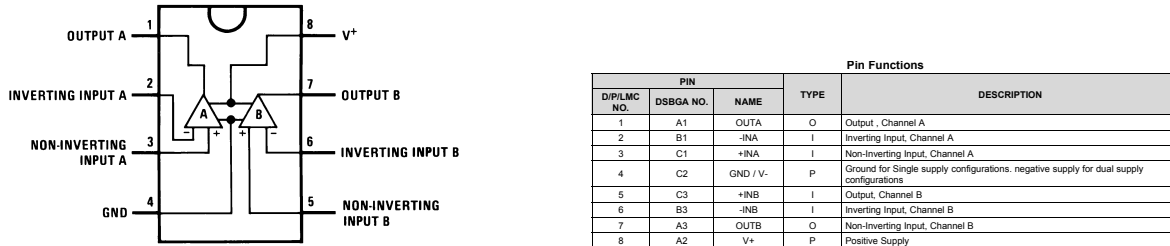

Figure 13: Pin layout (left) and descriptions (right) of the LM358 Op-Amp. Source: datasheet from <http://www.ti.com/lit/ds/symlink/lm158-n.pdf>
- use the LM358 operational amplifier (as voltage follower with gain 1) to amplify the sensor signal. The pin layout is given in the datasheet or in figure 13.